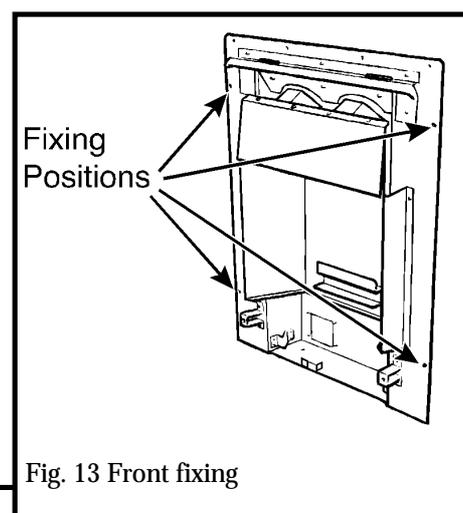

Fig. 13 Front fixing
7.1.2 Mark the fireplace front surround through the four fixing holes in the side flanges of the convection box (see figure 13).